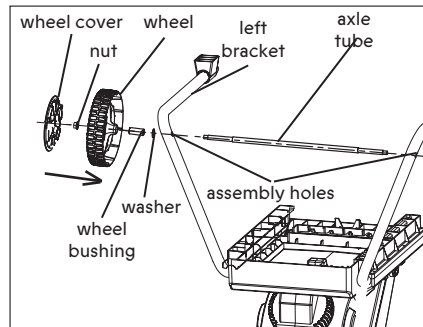

Fig. 2
3. Position the washers and wheel bushings on each end of the axle tube. Then assemble the wheels onto each end of the axle end. Use the selflocking nuts on each end of the axle and tighten both the self-locking nuts using the wrench supplied (Fig. 2).